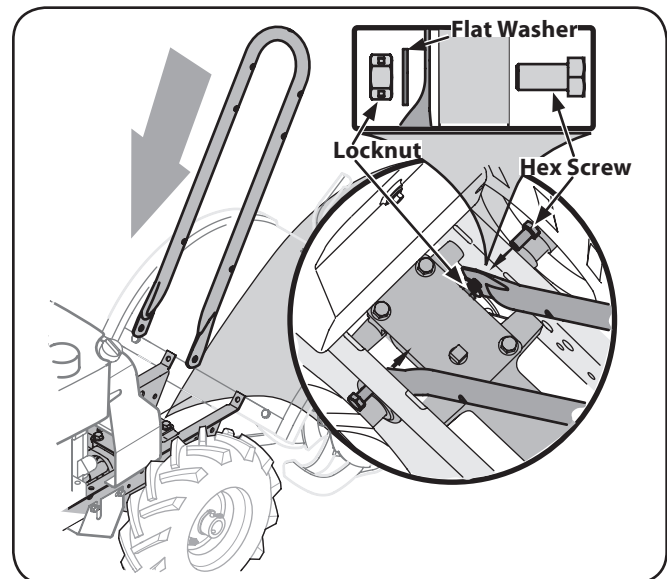

Figure 3-1
1. Loosely attach the legs of the handlebar support to the inner sides of the tiller frame using two 3/8"-16 x 3/4" hex screws, 3/8" flat washers, and 3/8"-16 hex locknuts. See Fig. 3-1.